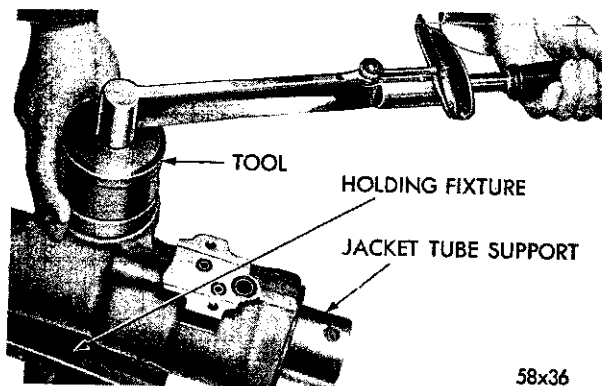

Fig. 12—Removing the Gear Shaft Cover Nut
(5) Remove the gear shaft oil seal inner and outer as outlined under Paragraph 2 "Gear Shaft Oil Seal Replacement".
(6) Loosen the gear shaft adjusting screw locknut to facilitate removal and remove the gear shaft cover nut with Tool C-3633 (Fig. 12).